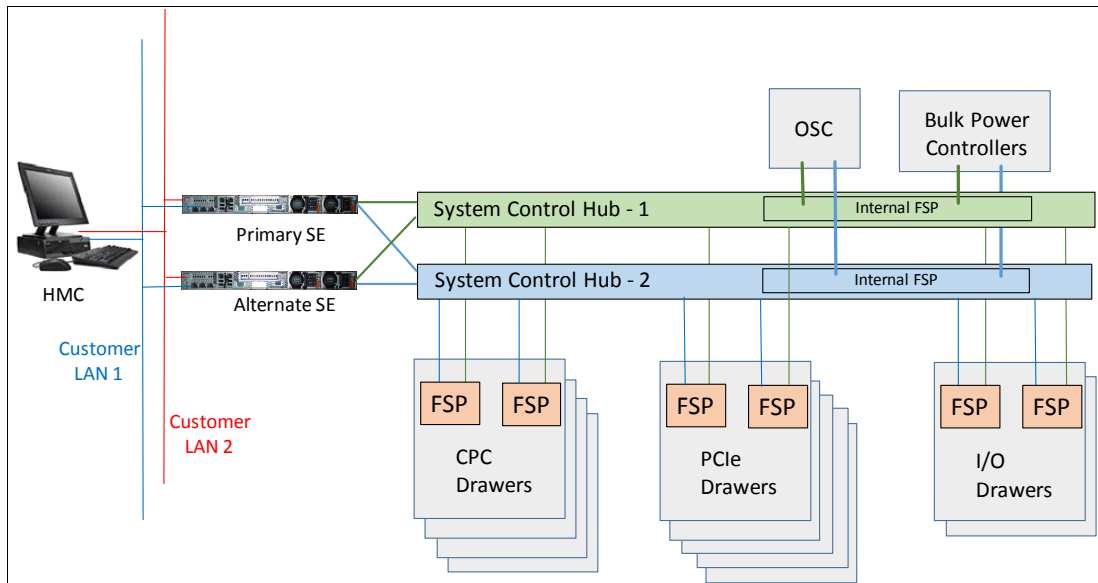

Figure 2-10 Conceptual overview of system control elements
Figure 2-10 is a conceptual overview of the system control design.
**Note:** The maximum number of drawers are four CPC drawers and five PCIe / I/O drawers for z13. The diagram in Figure 2-10 references the various supported FSP connections.